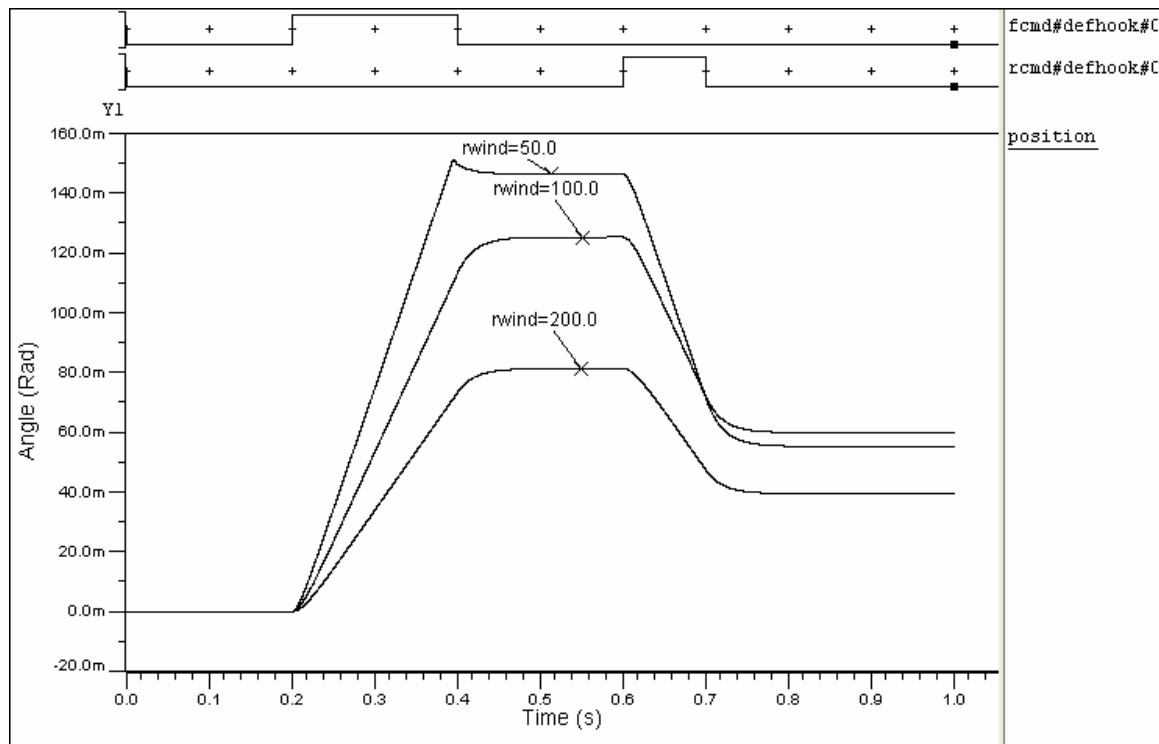

Figure 8 - Parametric Sweep Results
9. Plot the **digital** command signals (**fcmd** and **rcmd**) along with the motor position as shown in Figure 8 below: